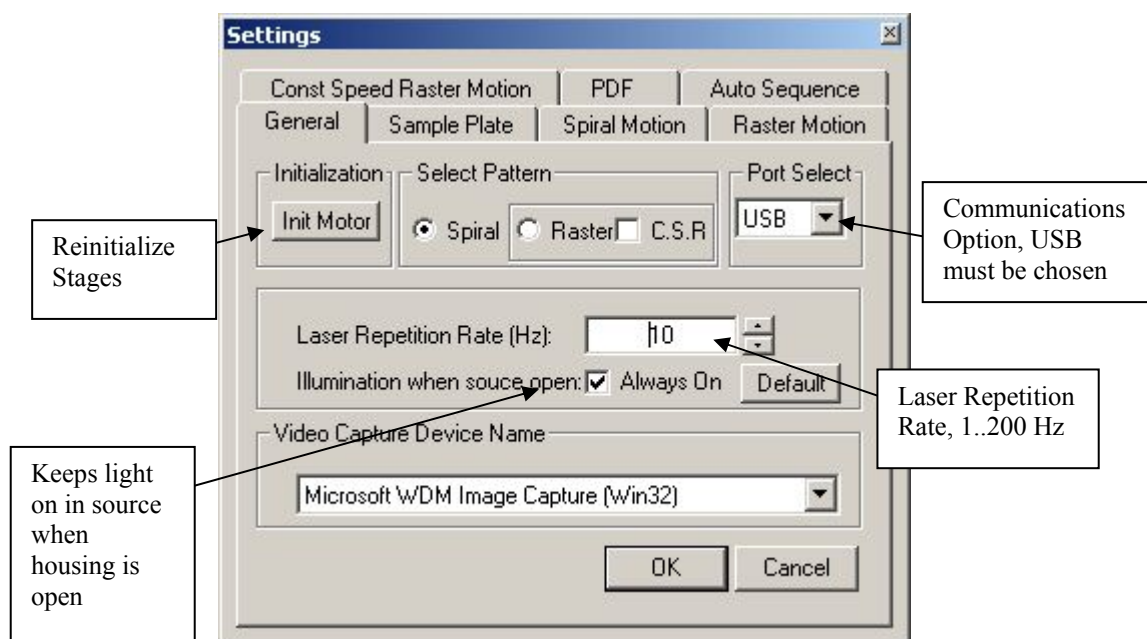
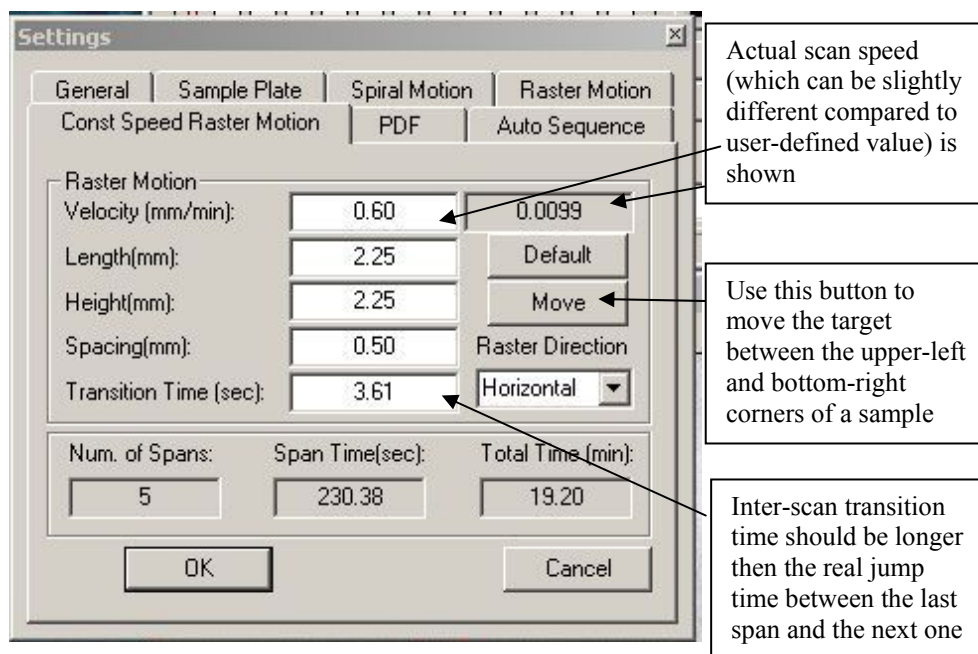
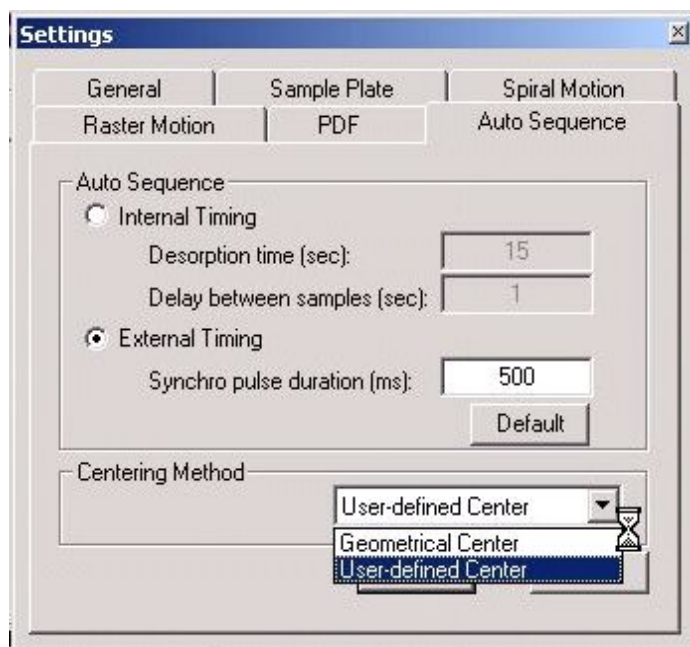

Fig. 7-13 General settings in the Target software.
Fig. 7-14. Constant Speed Raster Motion control page.
Fig. 7-26 Selection of sample Centering.
To change various program parameters like, spiral/raster motion properties, laser frequency, AutoSequence Mode timing and so on, click the "Settings" button and edit the parameter(s) as it is shown in Figs. 7-13 to 7-18, below.
There are three different sample plate patterns that can be selected during MS data acquisition to desorb fresh regions of sample surface by laser radiation: Spiral motion (selected in Fig. 7-13) and two different Raster patterns – Raster Motion and Constant Speed Raster Motion (C.S.R. control in Fig. 7-13 checked/unchecked). The parameters of the Patterned Motion can be adjusted using the three separate pages of the Setting dialog: Spiral Motion; Raster Motion and Constant Speed Raster Motion, correspondingly. Spiral or Raster motion can be used if the acquisition of long enough MS signal is desirable (for signal accumulation, relatively weak MS/MS data recording etc.). Raster/C.S.R (Constant Speed Raster) motion is designed for special applications like recording of AP MALDI images. For MALDI imaging, smooth target plate motion with constant speed is important. Another important feature of Constant Speed Raster Motion is the possibility of precise calculation of xy-coordinates of exposed position (WHERE the spectrum was recorded) based on the time elapsed from the Motion start (“retention time”, WHEN a spectrum was recorded). This feature enables the conversion of recorded mass-chromatogram into a two-dimensional plot of a particular peak intensity distribution (MS image). In Fig. 7-14, Constant Speed Raster Motion page of Settings dialog that controls the mode is shown.
2. **Check** the “AutoSequence” button is activated in the main *TARGET* software window (see Fig. 7-14) and **check** the “External Timing” radio button in the *TARGET*’s “Settings Dialog” window (see Fig. 7-26).
3. **Check** the “AutoSequence” button is activated in the main *TARGET* software window (see Fig. 7-14). For Internal Timing, **check** the “Internal
Timing” radio button in the *TARGET*’s “Settings Dialog” window (see Fig. 7-26). You don’t need any External Control cable in this case. For External Control, **check** the “External Timing” radio button. 500ms in the figure is the appropriate duration of Start pulse.
5. **For the “Internal Timing” mode**, start “Continues” data acquisition/recording in Tune-plus program of Xcalibur package. Then click on the PLAY button in the *TARGET* software window to start AP/MALDI (PDF) operation. The data acquisition will start and continue during the time specified for the spot (“Desorption time” in Fig. 7-26). When the data acquisition from the first sample is done, the laser firing is stopped and the target moves to the next sample spot. The *current* sample is indicated by a blinking color. The process will be repeated until the last sample spot has been analyzed. Finish the data recording in Tune-plus program.